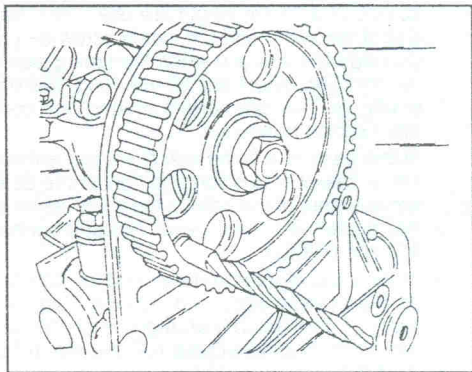

Fig. 1.19. — Lock the camshaft sprocket against rotation when tightening the sprocket securing bolt. A washer is fitted underneath the bolt head.
- Lubricate a new camshaft oil seal with engine oil (sealing lip and outside) and fit the seal into the cylinder head and over the shaft. Use a piece of tube of the same diameter as the oil seal to drive the seal in position. After the seal has been fitted, slide the camshaft timing gearwheel over the shaft (without dislodging the Woodruff key) and fit the bolt with washer. Tighten the bolt to 5.0 kgm (36 ft.lb.). The camshaft timing gear must be held against rotation. Fig. 1.19 shows a suitable method. Underneath the camshaft gear, towards the left, you will find a plug. If this has been removed, fit a new one. The plug is tightened to 3.8 kgm (27.5 ft.lb.).